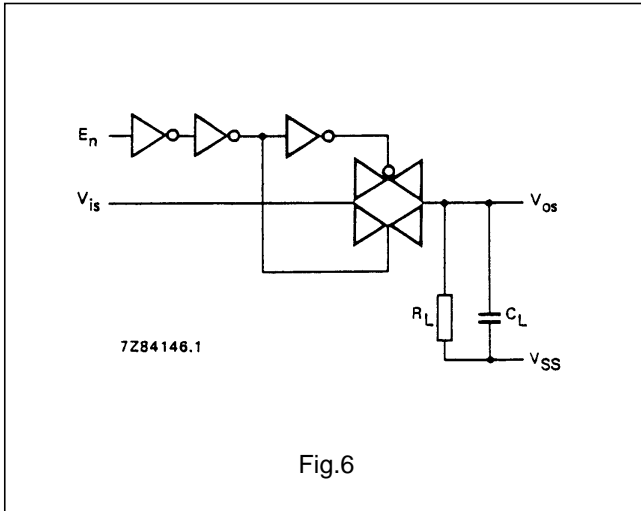

Fig.6
- $R_L = 10 \text{ k}\Omega$  to  $V_{SS}$ ;  $C_L = 50 \text{ pF}$  to  $V_{SS}$ ;  $E_n = V_{DD}$ ;  $V_{is} = V_{DD}$  (square-wave); see Figs 6 and 10.
$V_{is} = V_{SS}$  and  $R_L$  to  $V_{DD}$  for  $t_{PLZ}$  and  $t_{PZL}$ ; see Figs 6 and 11.
- $R_L = 10 \text{ k}\Omega$  to  $V_{SS}$ ;  $C_L = 15 \text{ pF}$  to  $V_{SS}$ ;  $E_n = V_{DD}$  (square-wave); crosstalk is  $|V_{os}|$  (peak value); see Fig.6.